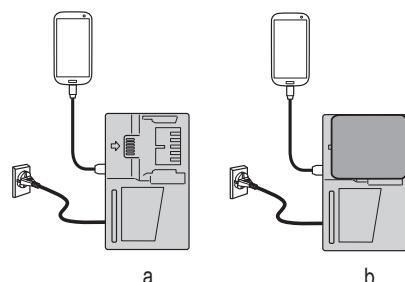

Fig. 11
- Charging a USB device from a electrical outlet. (Fig. 11-a)
- Charging a USB device and battery from a electrical outlet. (Fig. 11-b)